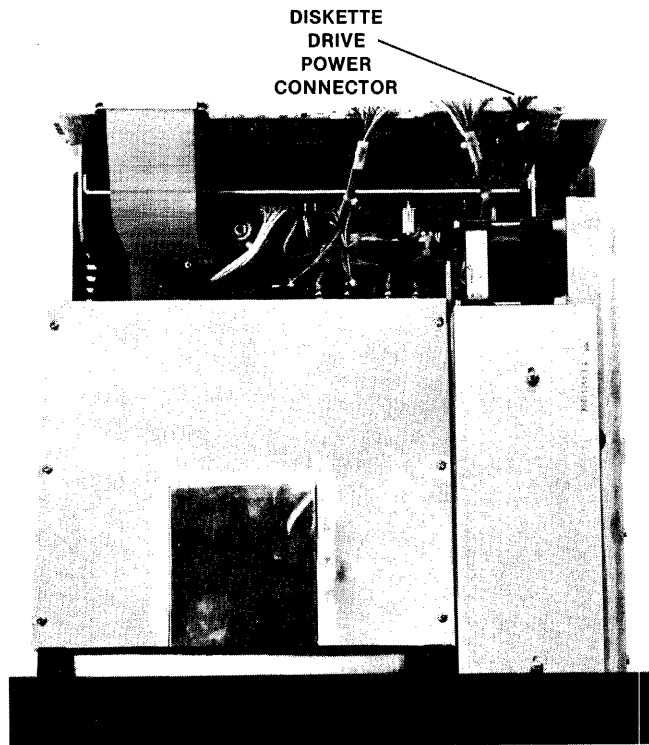

Fig. 4-16 Disk Drive Power Connections
11. Attach the DC and AC power cables as shown in Figure 4-16.